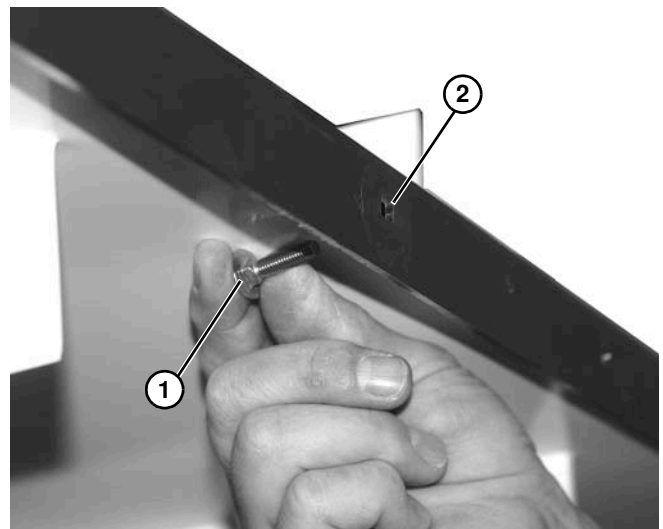

Figure 8
2. Install carriage bolt (**Figure 8, item 1**) through square hole (**Figure 8, item 2**) in conveyor.